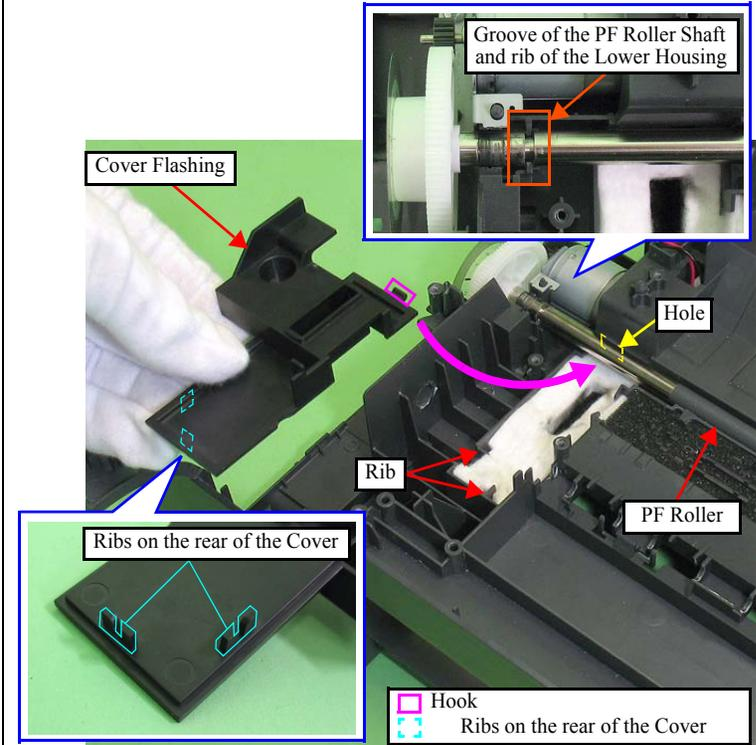

Figure 4-90. Installing the Cover Flashing
- Before installing the PF Roller, align the groove of the PF Roller Shaft with the rib of the Lower Housing. (See Fig.4-90.)